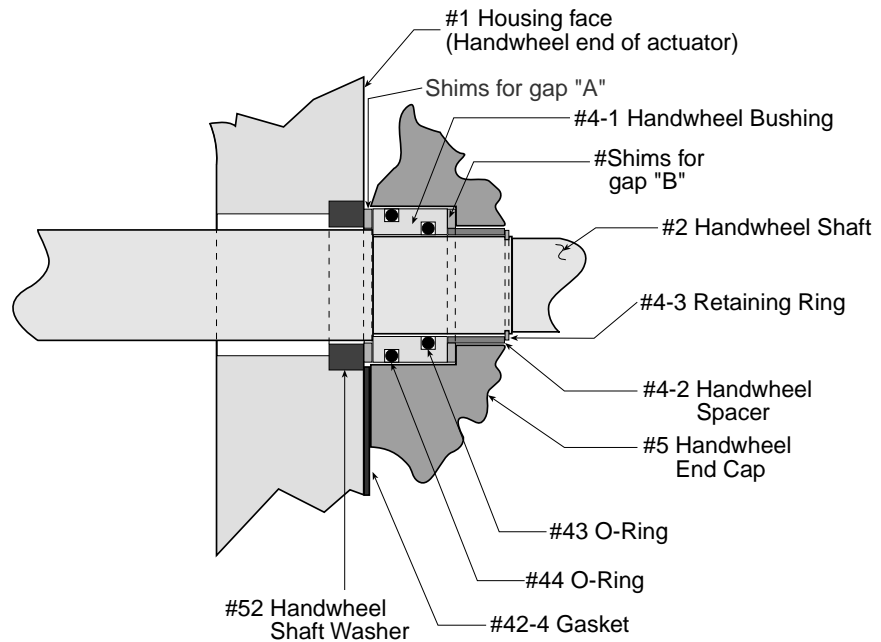

Figure 30 - Shim location for gap "B" dimension
- Install the remaining shims (that were not used at gap "A") over the Handwheel Spacer #4-2 and against Handwheel Bushing #4-1. The proper thickness for shims at gap "B" is determined based on the total shim thickness for gap "A" and gap "B" combined being .18 inches (4.57 mm) total. See figures 30 & 31.